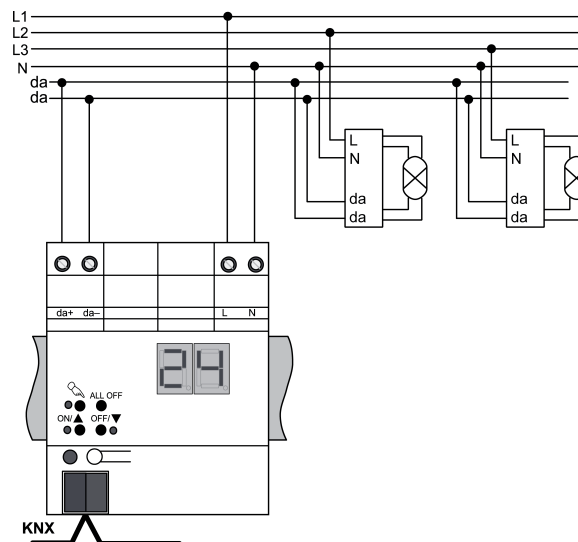

Figure 3
- Connect device as shown in the connection example (figure 3).